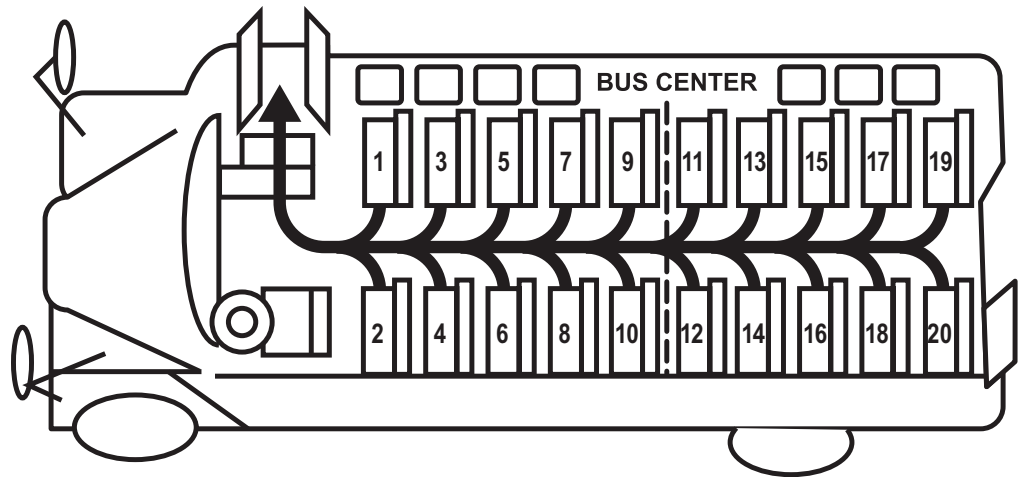

Figure 8-2. Evacuation Order for Front Door Evacuation.
- For a front door exit, students will evacuate in the following order: right front seat, left front seat, and the rest of the seats from right to left until the bus is empty (Figure 8-2).